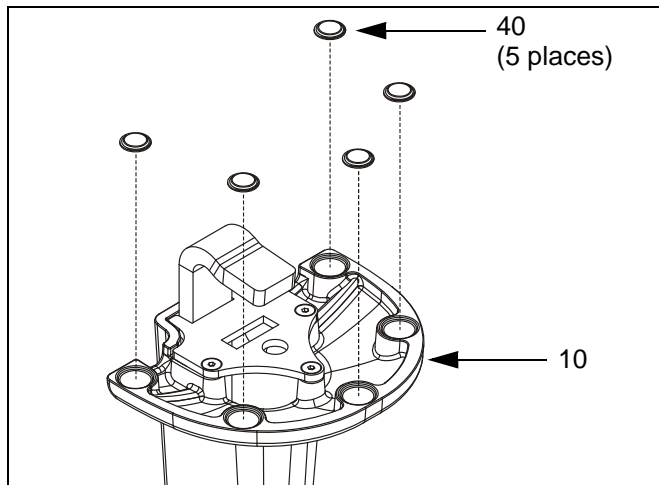

Figure 4: Install Bumpers
3. Peel backing from adhesive bumpers (40) and attach to bottom of mount (10) (See Figure 4).